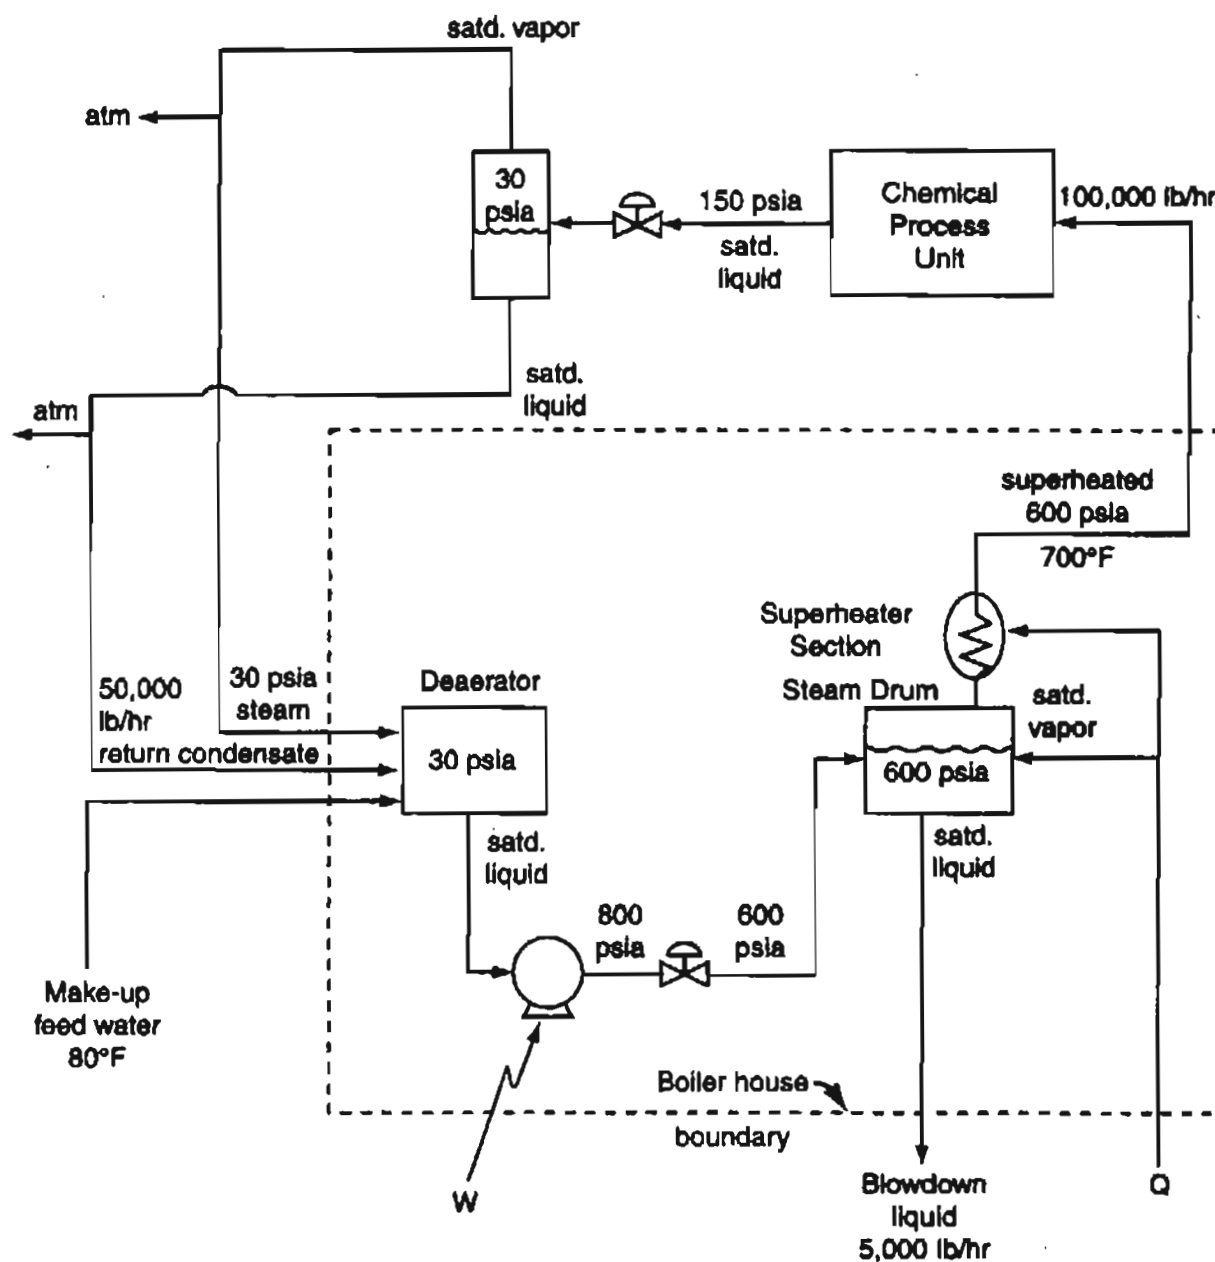

Figure P24.39
*****24.39** A boilerhouse flowsheet for a chemical process plant is shown in Figure P24.39. The production rate of 600 psia superheated steam is 100,000 lb/hr. The return condensate flowrate is 50,000 lb/hr. Calculate the: